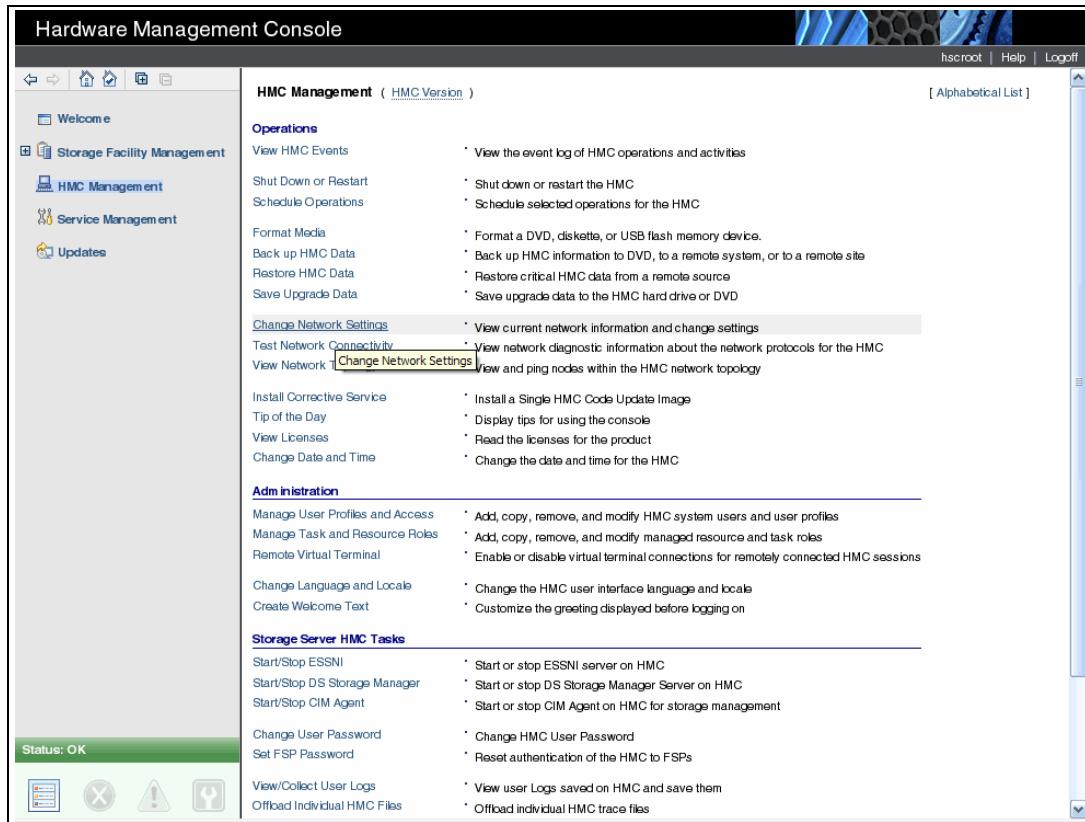

Figure 9-8 WebUI HMC management window
- In the HMC Management window, select **Change Network Settings**, as shown in Figure 9-8.